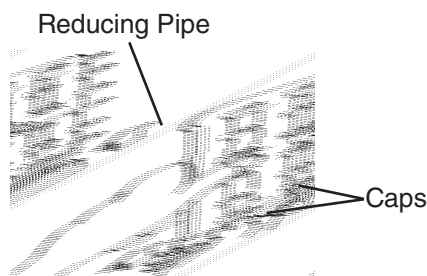

Fig. 42
- 11) Refit the 2 caps in their correct positions. Make sure the reducing pipe is in place in the center. See Fig. 42.